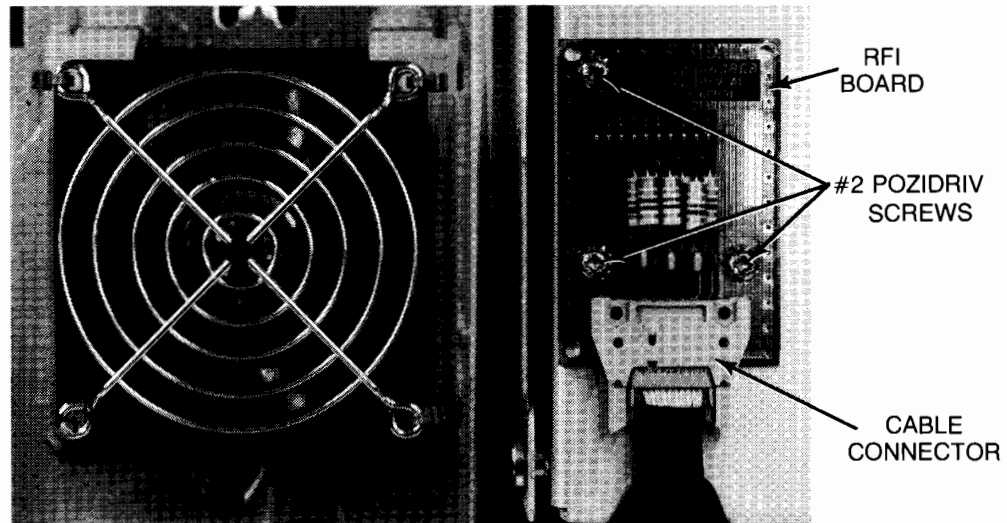

Figure 4-86. Removing RFI Board
3. Disconnect cable connector from RFI board (Figure 4-86).
4. Remove three #2 Pozidriv screws and washers from RFI board and remove board from cage door (Figure 4-86).